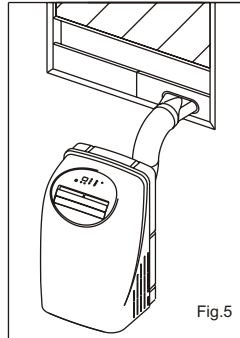
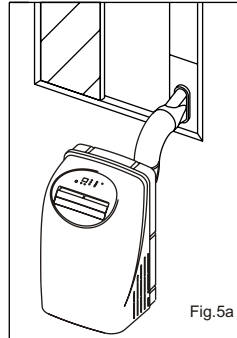

Fig.5
Fig.5a
- 2) Install the Flexible Exhaust Hose and the Adjustable Window Slider Kit as depicted in Fig.5 & Fig.5a